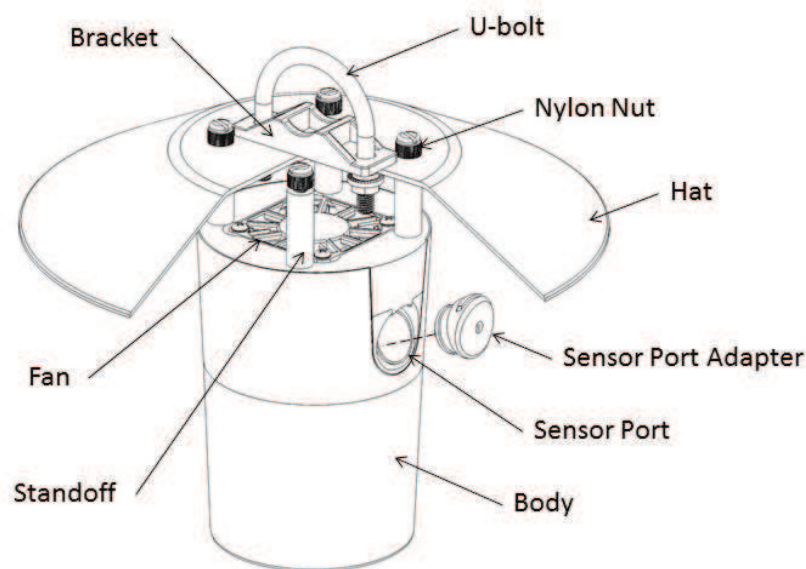

Figure 7-1. Components of the TS100SS
1. Attach the hat to the pipe with the U-bolt, nuts, and rubber washers (Figure 7-1 [p. 8]).